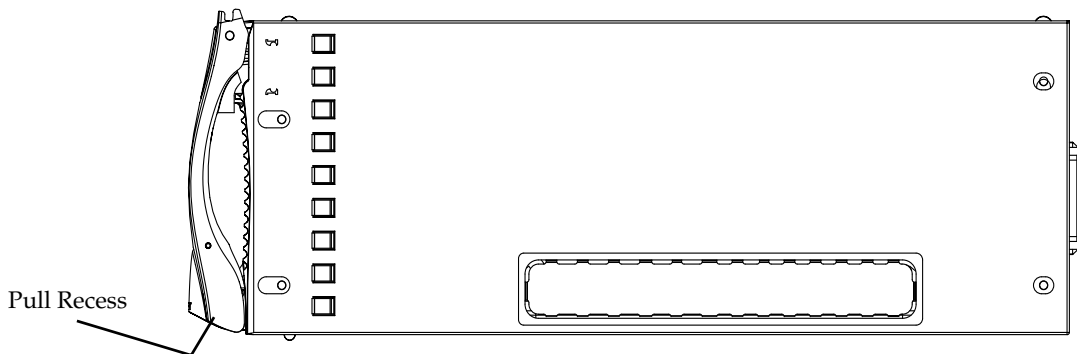

FIGURE 12-5 The Blade Locking Mechanism
1. If required, open the blade lever by inserting a finger in the pull recess located in lower portion of the blade lever and pull the lever in a forward and upward motion, causing the lever to unlatch (FIGURE 12-5).